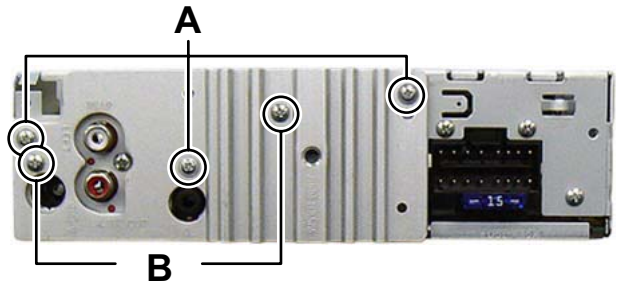

Fig.3-2
#### 3.1.2 Removing the HEAT SINK (See Fig.3-2, 3-3)
- (1) Remove the three screws **A** and the two screws **B** attaching the HEAT SINK. (See Fig.3-2)